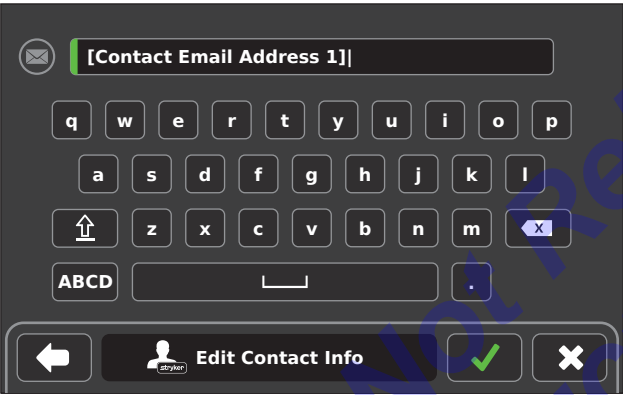

Figure 37 – Edit CONTACT INFO E-mail Address
7. Using the keyboard, edit the e-mail address and touch the confirm button to save and exit the screen. Touch the CANCEL button to cancel the request (Figure 37).